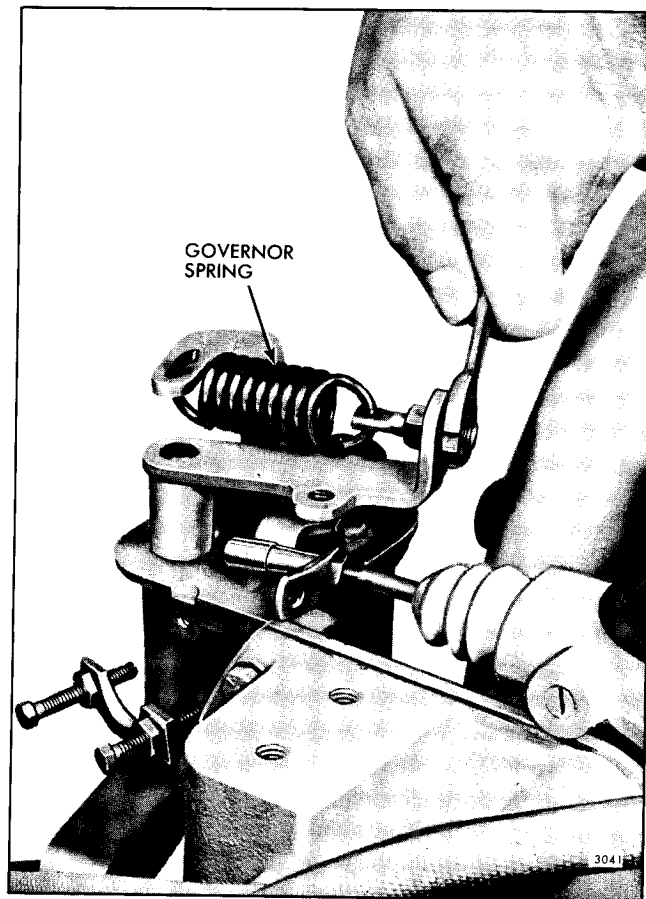

Fig. 2 - Adjusting Governor Spring Eye Bolt
1. Adjust the governor spring eye bolt, see Fig. 2, until $1/8$ " of threads projects from the nut to the end of eye bolt.